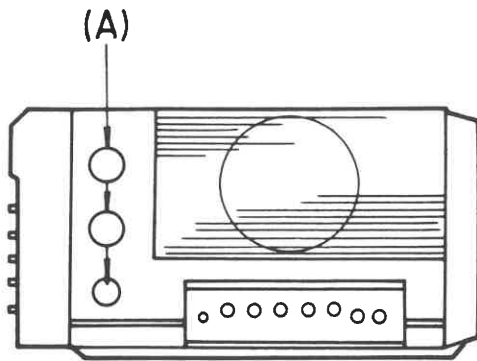

Figure 1
1. Pull 3 knobs (A) from the top cabinet right side. (See figure 1)